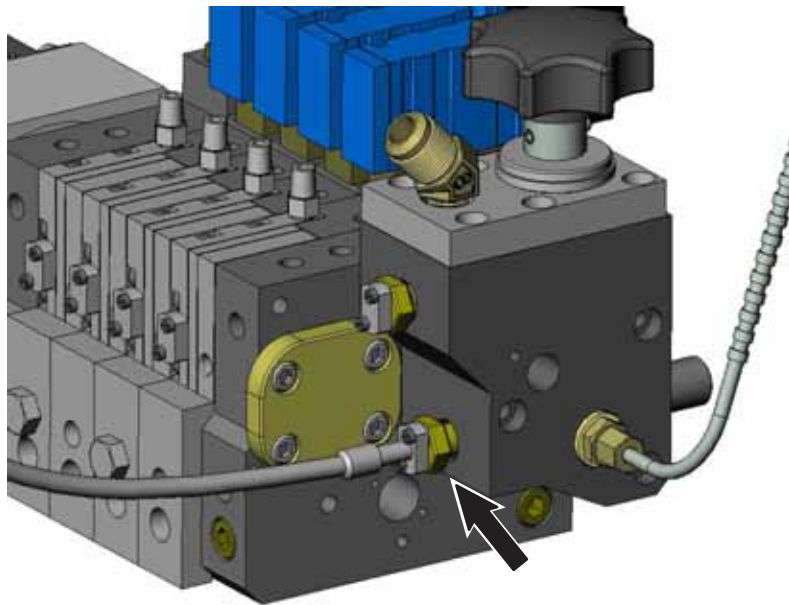

Figure 7-13 Location of the post-filter pressure transducer
7. See Figure 7-13. If applicable, reinstall the post-filter pressure transducer.